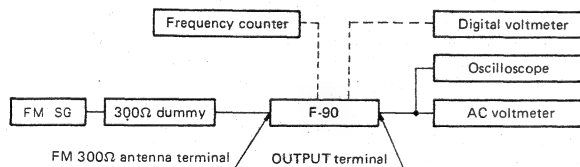

Fig. 11-2 FM Adjustment Connection Diagram
- Connect up as shown in Fig. 11-2.